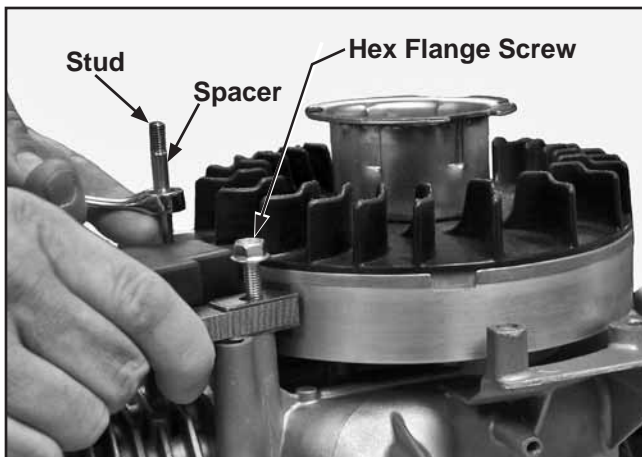

Figure 10-31. Tightening Ignition Module Stud.
2. Loosely thread the stud in a mounting leg and the hex flange screw in another leg. See Figure 10-31. Pull the module away from the flywheel and tighten the stud to hold it in place. Rotate the flywheel so the ignition magnet is aligned with the module.
3. Install the spacer onto the ignition module stud. See Figure 10-31.